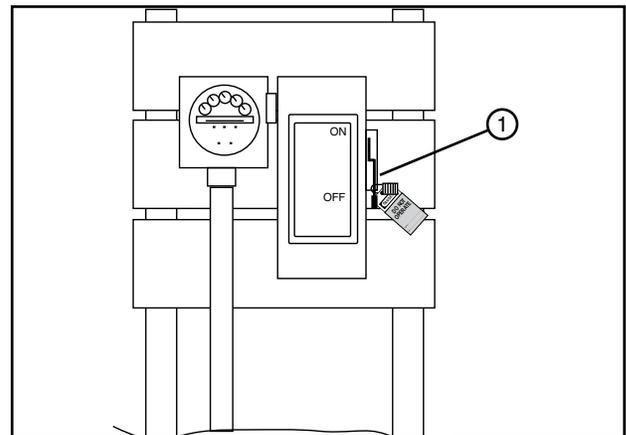

Figure 37-2 1. Public Power Service Disconnect
2. Turn OFF and lock the electrical service disconnect at each tow location. See Figure 37-2.